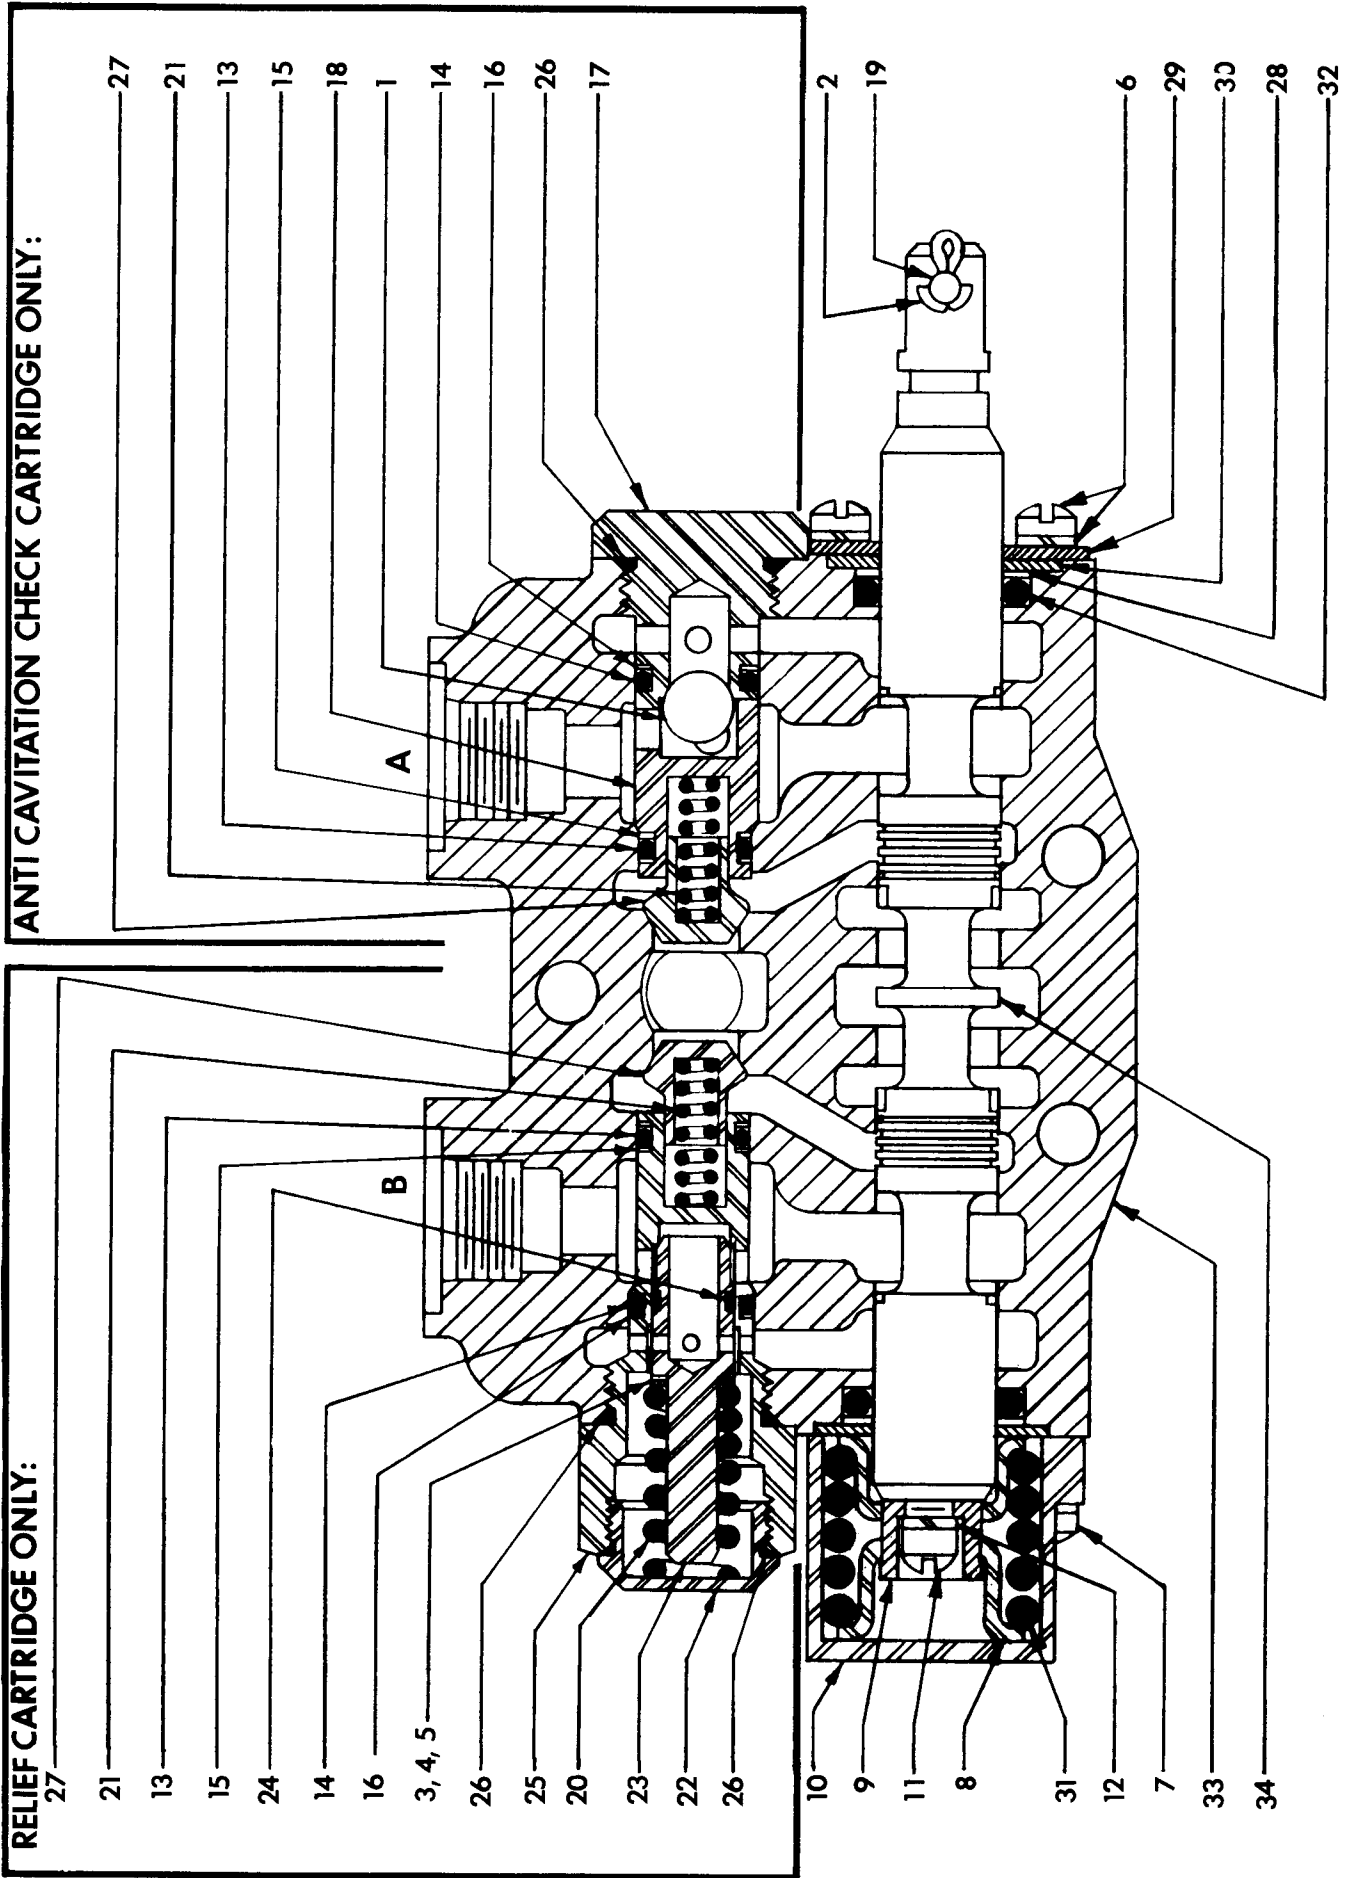

FIG 9
20. Bent spool.....~~return for factory repair,~~ or replace with new spool section. See item 31 at the end and Fig 9, 10, and 11.
23. Spool not moved to full stroke.....check travel, should be 5/16 inch either way or a total of 5/8 inch. See item 31 at the end.
25. Overload relief valve in the control.....clean relief carefully but do not disturb its pressure setting as it can not be field calibrated, or replace cartridge. See item 31 at the end and Fig 9 and 10.
- 28. Check poppet in the control valve.....clean check poppet(s) carefully, being sure that it moves freely with good spring action and seats properly or replace. See item 31 at the end and Fig 9, 10, and 11.
- 29. Damaged or worn spool seals.....replace spool end seals, see item 31 at the end and Fig 9, 10, and 11.
- 30. Check ball in anti-cavitation check.....clean anti-cavitation valve carefully, being sure that checks move freely and seat properly, or replace cartridge. See item 31 next, and Fig 9 and 10.
PARTS LIST - FIG 9